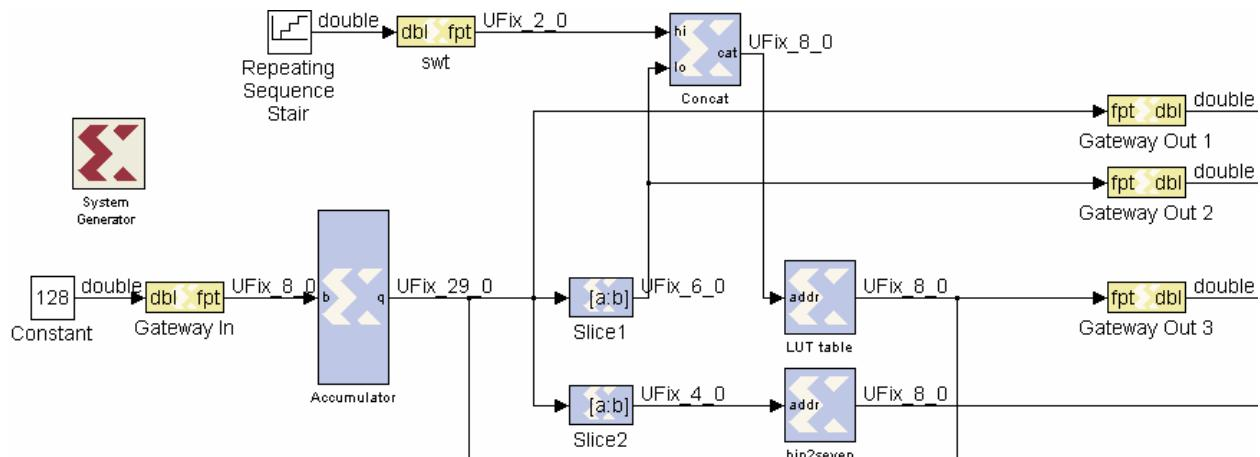

Fig.2: Changes made to lab1.mdl
6. **Rearrange** your design to match the changes show in **Fig.2**. Note that the **accumulator's input** is no longer connected to the switches but to a **constant value**. Also, the **LUT** is fed by the **concatenation** of the input from the **switches** and the **sliced accumulator output**.